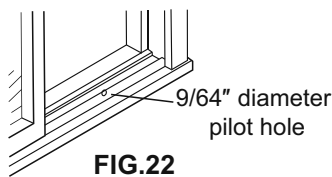

FIG.22
**25** Drill a  $9/64$ " diameter pilot hole in the window jamb an equal distance from each side of the jamb (FIG.22), and  $3/16$ " up from the window sill. If the hole coincides with the window lever slot in the jamb bottom, an additional hole will have to be drilled through the platform edge and the window jamb to miss this slot.